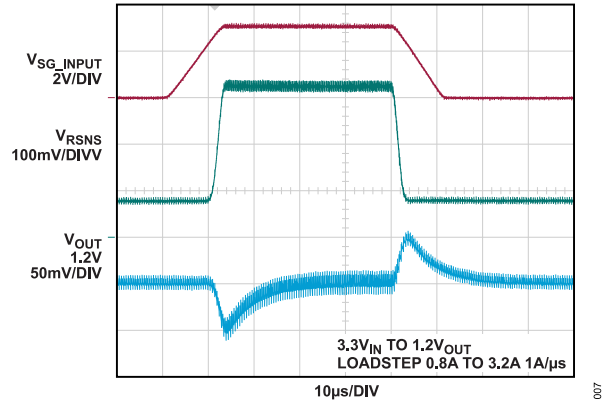

Figure 9. Load Transient Response Forced Continuous Mode
- Measure the RSNS voltage to observe the current, $V_{RSNS}/100$ m Ω . Adjust the amplitude of the pulse to provide the required transient. Adjust the rising and falling edge of the pulse to provide the required ramp rate. For more details, see Figure 9 and the optional transient response circuit shown in Figure 6.